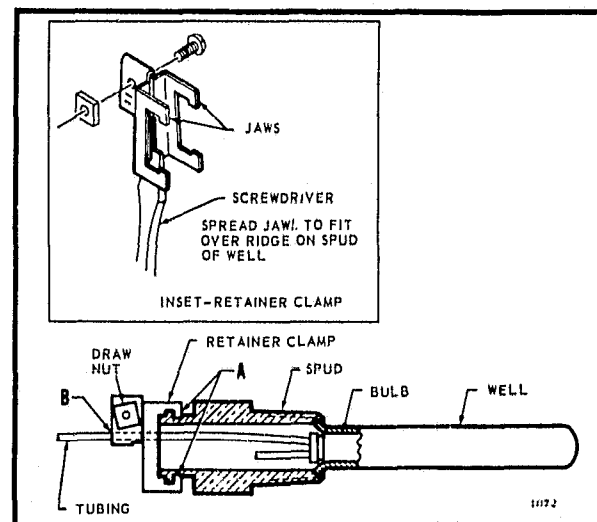
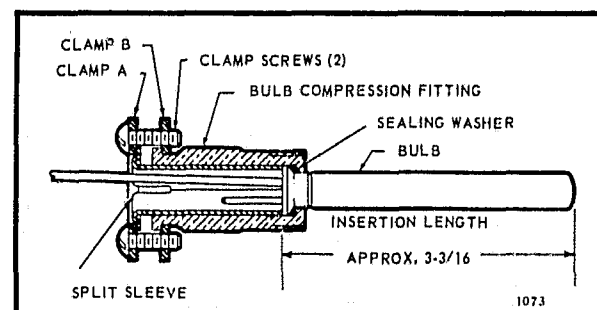
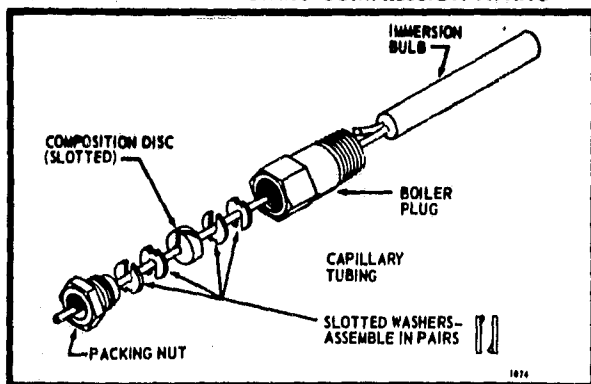

FIG. 5—IMMERSION WELL FITTING.
FIG. 6—BULB COMPRESSION FITTING. USE WITH MODEL L4008A, B, E, J, OR L6008A.
FIG. 7—CAPILLARY COMPRESSION FITTING. USE WITH MODEL L4008C,D,K, OR L6008C,E.
Bulb Compression Fittings (see Fig. 6) —
Capillary Compression Fittings (see Fig. 7) —
The remote temperature-sensing bulb can either be installed in an immersion well (Fig. 5) that extends into the boiler or tank, or it can be directly immersed in the liquid. For installations not using a well, secure the remote bulb with a bulb compression fitting (Fig. 6), or capillary compression fitting (Fig. 7).
Well, bulb compression fitting or capillary compression fitting must be ordered separately. Sizes available: 1/2 in., 3/4 in. NPT spud. Well, if used, must fit sensing bulb snugly for good thermal response. Insert bulb until it rests against bottom of well, then hold it there while tightening the tubing clamp. (See Fig. 5.)
4. Place composition disc and 4 slotted brass washers on tubing in the order shown in Fig. 7. Turn brass washers so that slots are 180 degrees apart.